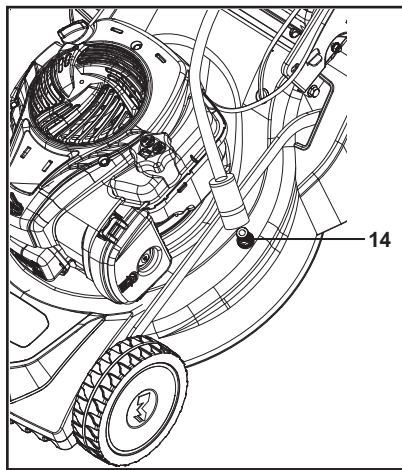

Fig. 24
1. Carry out the water supply deck cleaning in a flat area with good water drainage. Connect a garden hose to the water inlet (14) on the mower deck (Fig. 24).
3. Pull the brake lever (3) and hold it against the upper handle bar (1), then pull the recoil starter handle (28) lightly to start the engine and cutting blade (29).
4. Stop the engine by releasing the brake lever (3) when no further dirty water or debris can be seen exiting the underside of the product.